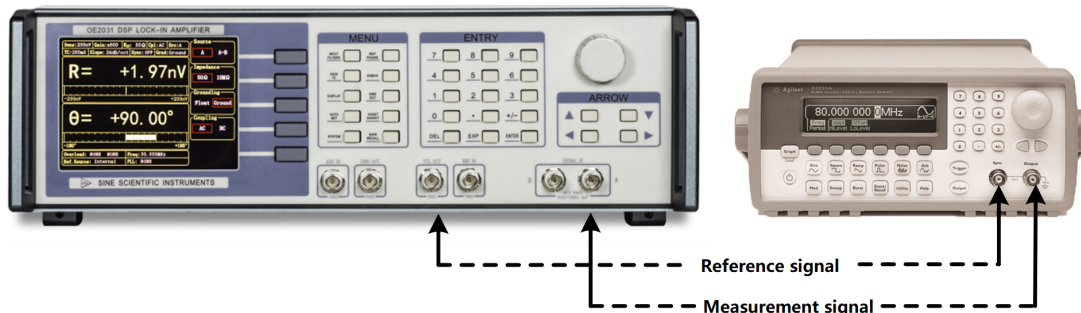

Figure 86. Signal Cable Connection Diagram
2. Use a signal cable with BNC connectors to connect the output connector of the function generator to the IN+ connector of SIGNAL IN on the front panel of the OE2041. Use another BNC signal cable to connect the synchronous reference signal connector of the function generator to the REF IN connector on the front panel of the OE2041, as shown in Figure 86.